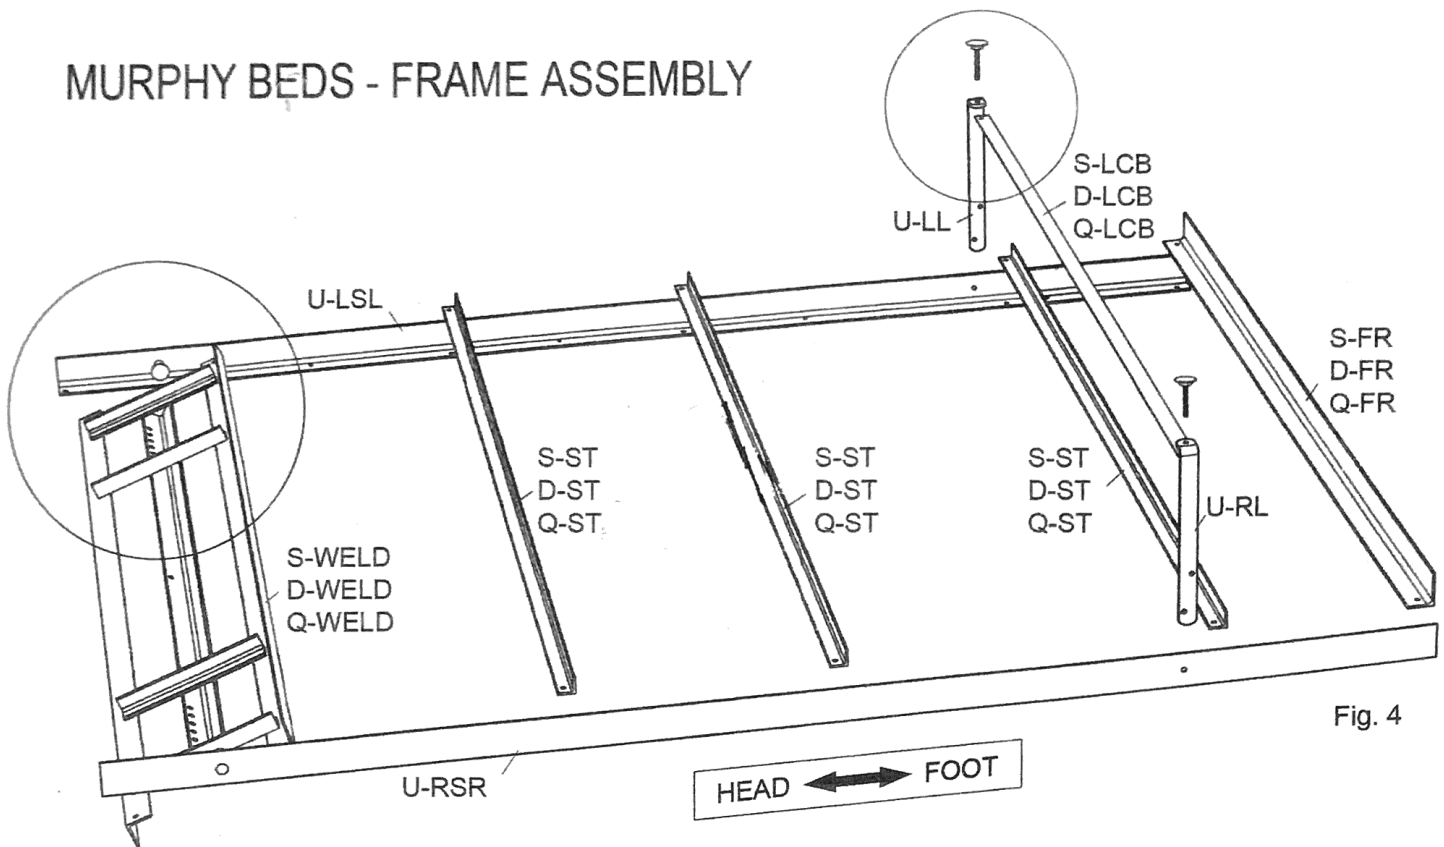

Fig. 4
9. Lay parts on floor upside-down, as shown in Fig. 4 (with short side of Side Rails on the floor). It will be helpful to raise the foot end of the side rails off the floor a couple of inches with 2x4 wood blocking, etc.
13. Attach left and right legs to side rails of frame using the 1-1/4" bolts through the outside of the side rails, through the nylon spacers (UMSPNY), then through the leg, secured with nylon insert locknuts (UMNNYL), and tighten snug. Note: The holes used to connect to the legs to the side rails are offset toward the head of the bed. See Fig. 4.